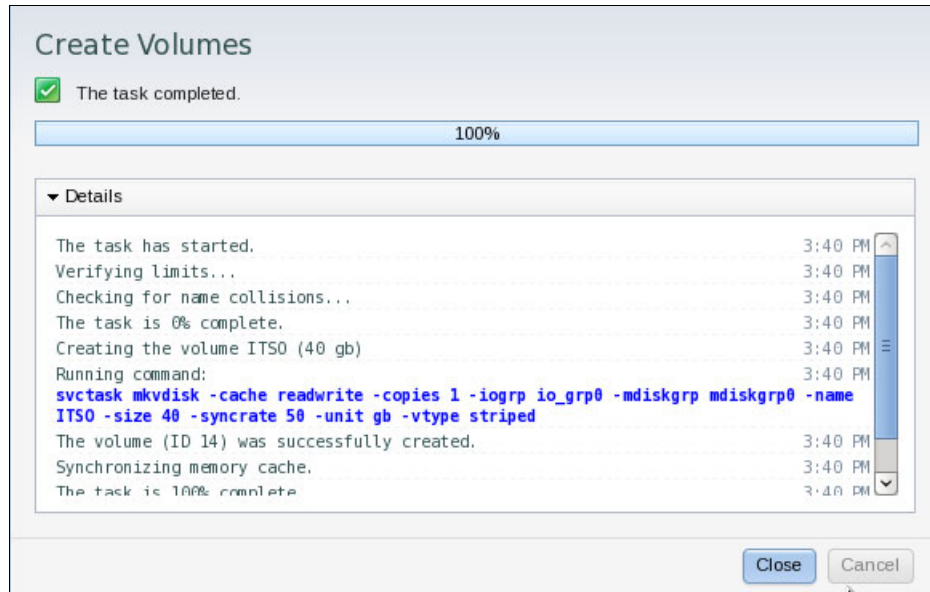

Figure 2-25 Volume creation task output
- Figure 2-25 shows the output of the volume creation task. Click **Close**.